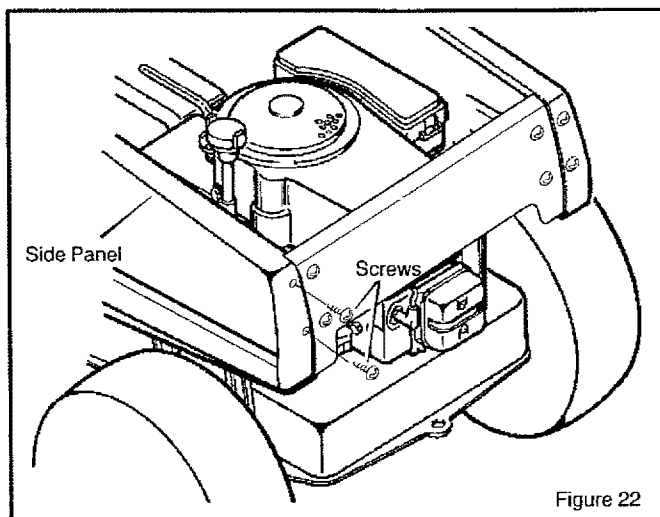

Figure 22
1. Remove the **screws** that hold the back of the side panel (Figure 22)